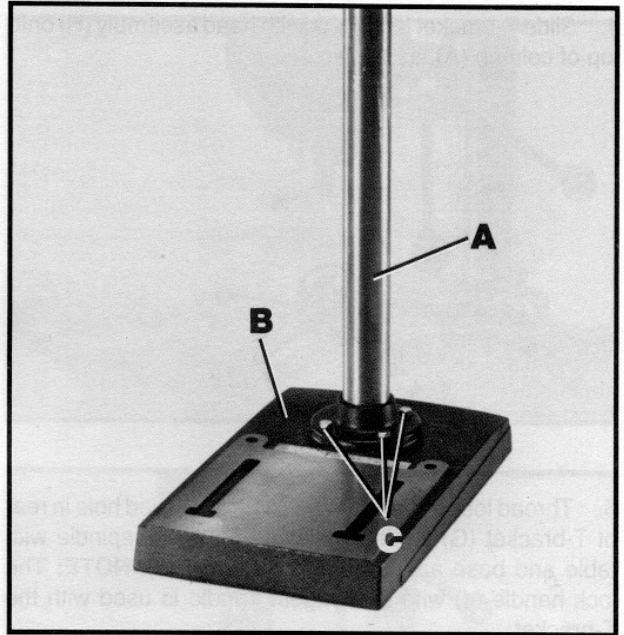

Fig. 2
1. Assemble the column and flange assembly (A) Fig. 2, to base (B) using the four screws, three of which are shown at (C).